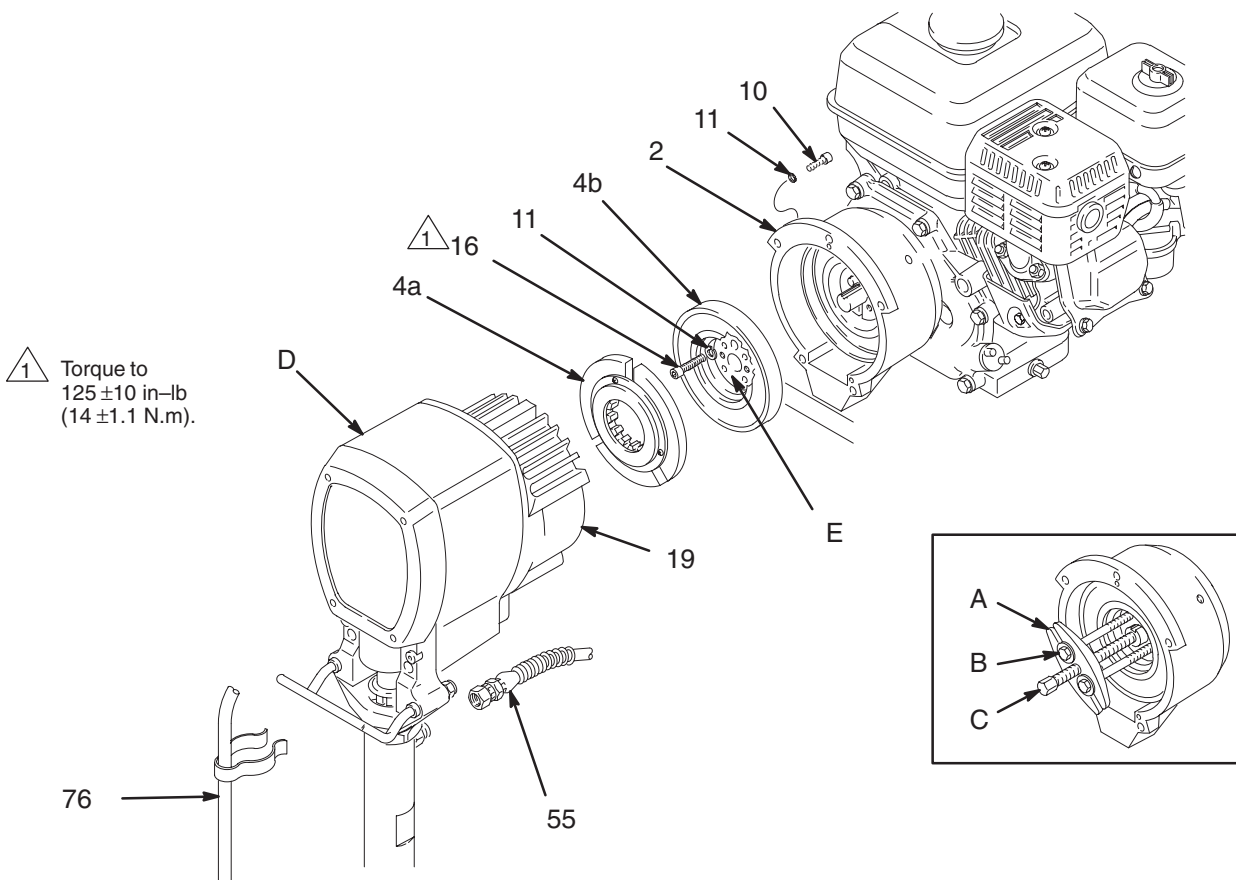

Fig. 11
NOTE: Refer to Fig. 11 for this procedure.
2. Disconnect the hose (55) from the displacement pump. Remove the spring clips and drain hose (76) from the displacement pump.
3. Remove the two bottom screws (10) and lockwashers (11) first, then remove the two side screws (10) and lockwashers (11), and last remove the top screw (10) and lockwasher (11).
4. Tap lightly on the back of the bearing housing (21) with a plastic mallet to loosen the assembly (D) from the clutch housing. Pull the assembly away.
- a. Remove the four socket head capscrews (16) and lockwashers (11). Install two of the screws in the threaded holes (E) in the rotor. Alternately tighten the screws until the rotor comes off. See Fig. 11. If the rotor is difficult to remove, use procedure b.
- b. You can use a standard steering wheel puller (A). However, two 1/4–22– x 3 or 4 in. long screws (B) are also needed. Replace the short screws of the steering wheel puller with the longer screws (B). Turn the screws (B) into the threaded holes (E) of the rotor (4b). Tighten the capscrew (C) of the tool until the rotor comes off. See the Detail in Fig. 11.